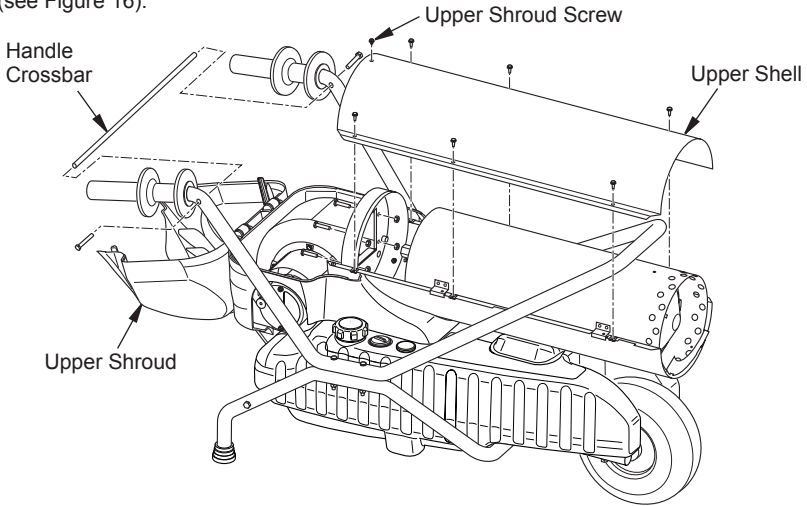

Figure 16 - Upper Shell Removal (200 Model Shown)
1. Using a #4 Phillips screwdriver, remove 2 bolts securing handle crossbar to handles (see Figure 16).
2. Remove single screw securing upper shroud using 5/16" nut driver (see Figure 16). Open shroud carefully by pulling up on both sides.
3. Remove 6 screws along each side of heater using 5/16" nut driver. These screws attach upper and lower shells together (see Figure 16).